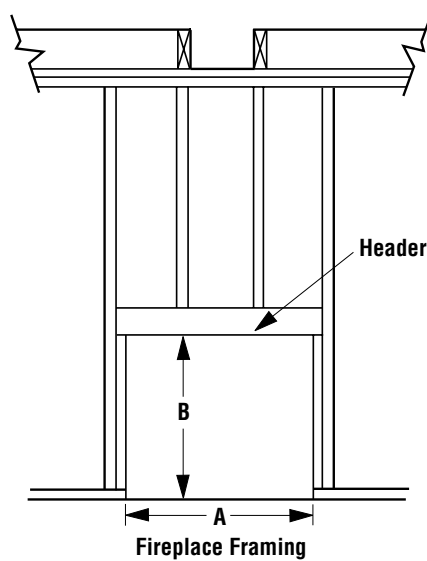

Figure 4
Step 1. Construct the Appliance Framing - Frame appliance enclosure as illustrated in **Figures 4 through 7 on page 5**.